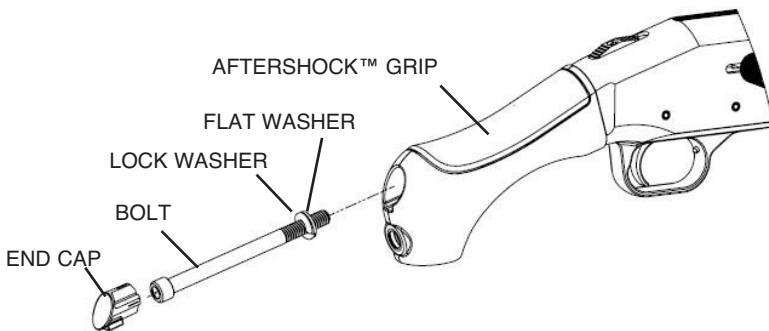

Figure 15
1. Place the grip against the receiver as seen in Figure 15.